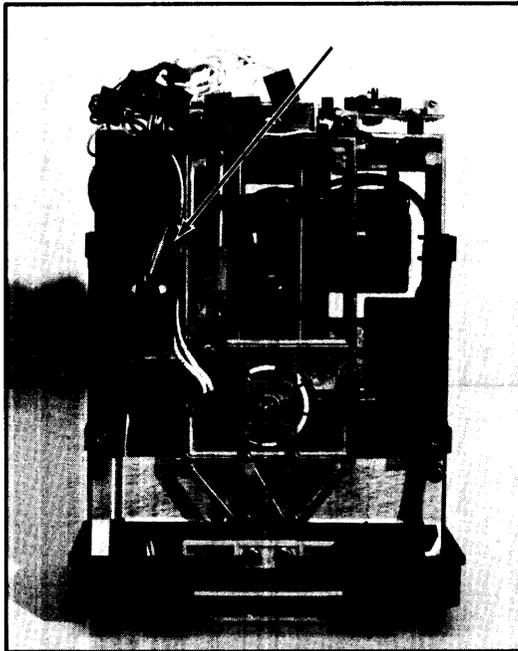

Figure 5-5: Head Assembly Retaining Screws
7. If the amplitude of one of the lobes of the waveform is less than 80% of the other, slightly loosen the three screws shown in Figure 5-5 and adjust the radial head alignment by gently turning the head alignment cam screw.